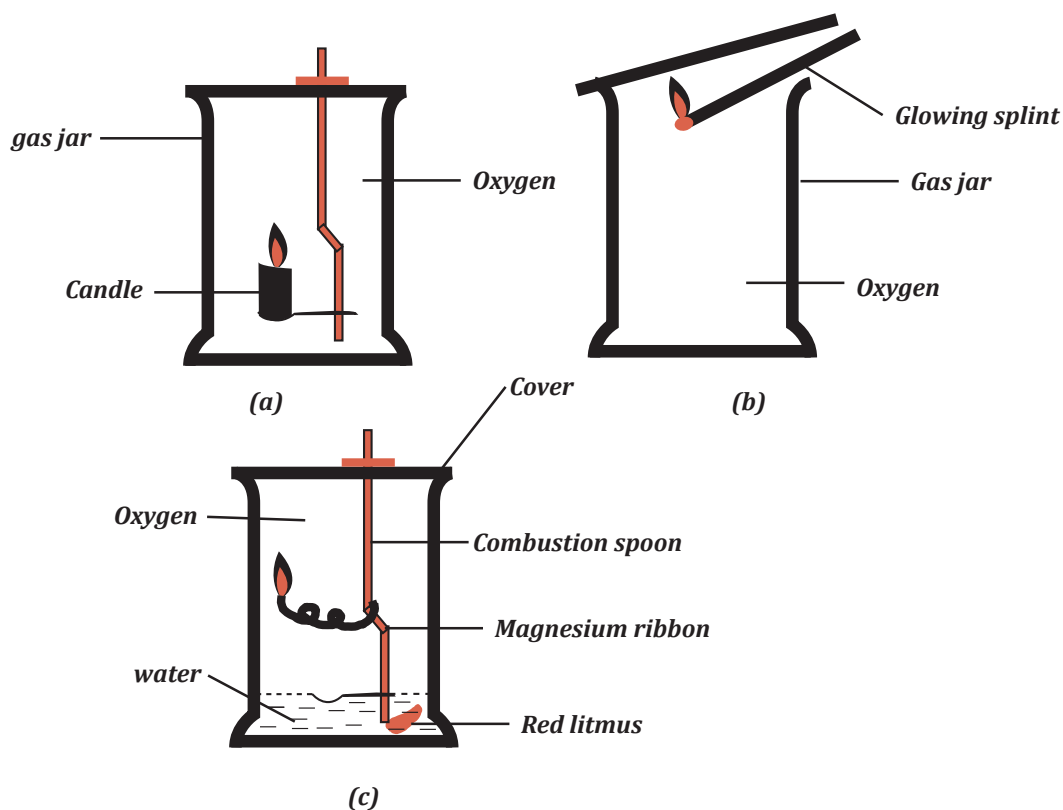

Fig. 8.3 Investigating some of properties of oxygen
3. Put a small candle on a combustion spoon. Light the candle and lower it into jar I. Observe the candle flame. See figure 8.3
5. Lower the glowing splint into jar J (figure 8.3 (b)) does the glowing splint relight?
6. Clean a piece of magnesium ribbon using sand paper. Fix the ribbon on a combustion spoon as shown in figure 8.3 (c)